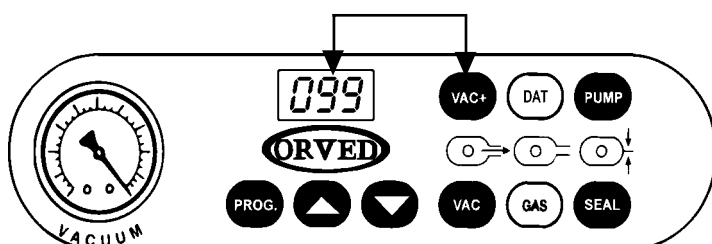

Fig. 3
- d) Regulate the 'VAC' function on the control panel to the maximum value of 99% (Fig. 3).
- e) Lift the plexiglas lid after lowering the lid holder (A).
- f) Switch the machine On by means of the main ON/OFF (B) switch provided on the front of the machine.